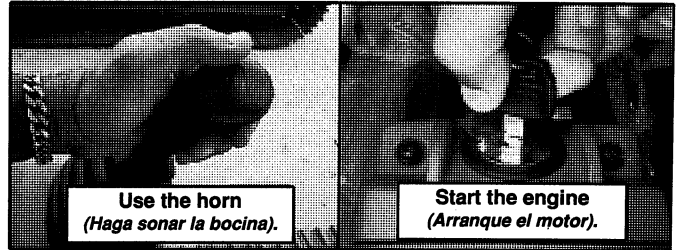

FIG. 8B
H. Beep the horn to warn any personnel around the machine that it is being started and turn the ignition key to start the engine, see Fig. 8B. (*Haga sonar la bocina y gire el interruptor de encendido para arrancar el motor, ver Fig. 8B*).